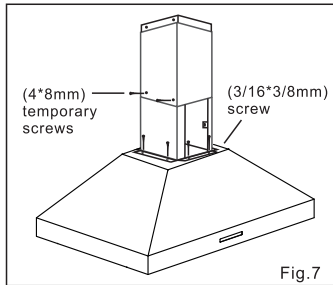

Fig.7
1. Losen temporary screw (Fig.7)
9. Hold the outer chimney duct cover up by temporary screws then continue to install island hood to end of telescopic stack. (Fig.7)
Important ! Must ensure every screws were fasten tightly. (Fig.7)